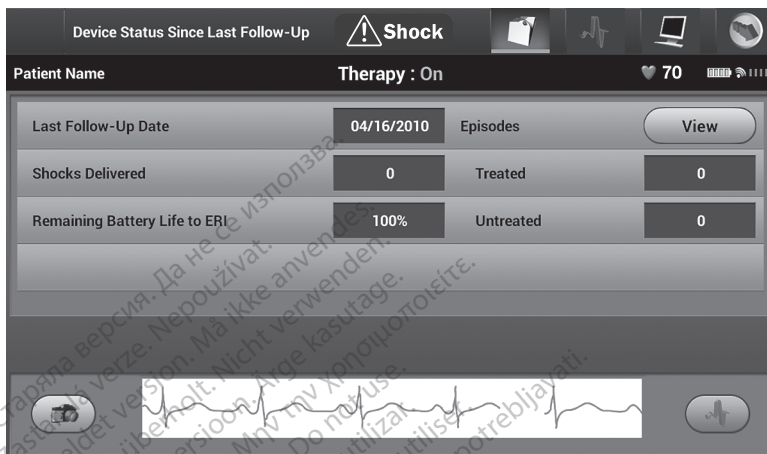

Figure 25. Device Status screen
4. The Device Status screen will appear showing an overview of all pulse generator activity since the last communication session (Figure 25 Device Status screen on page 38).